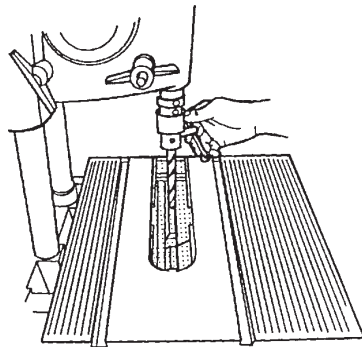

Figure B-53
11. Install a 3/8" to 1/2" straight drill bit in the drill chuck and use the chuck key to lock it place. See Figure B-53.